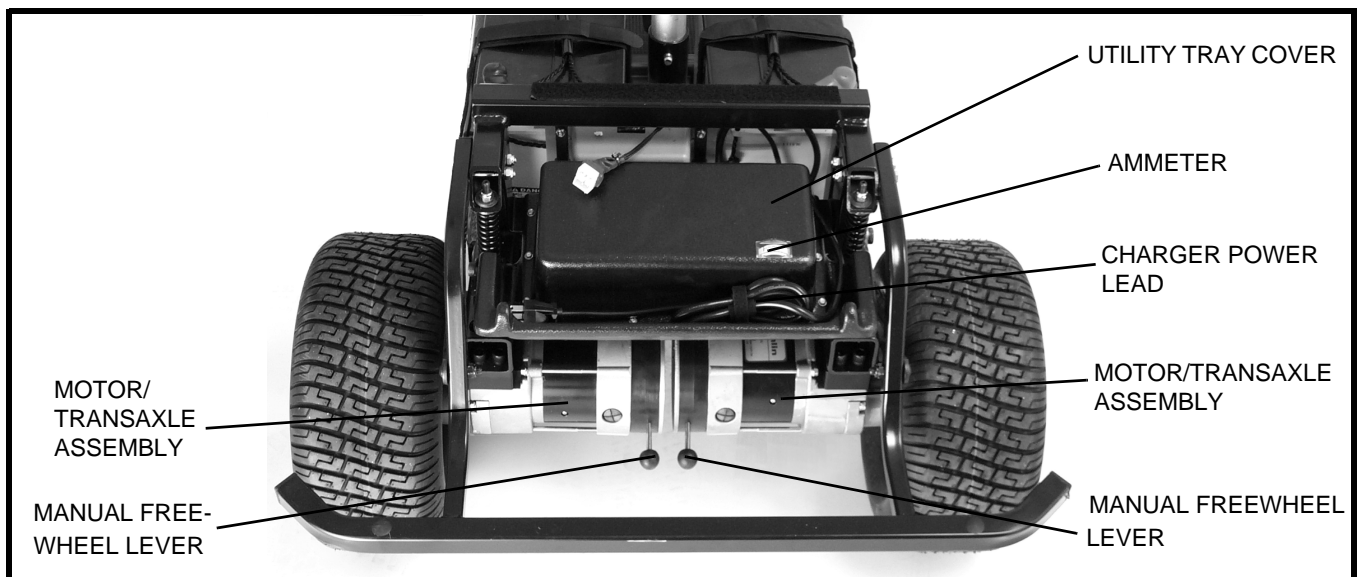

Figure 6A. Rear Section
Whenever you want to push your scooter for short distances, you can put it in manual freewheel mode. The manual freewheel levers are located on the end of the motors at the rear of the scooter. See **figure 6A**.
4. Extend the charger power lead (see **figure 6A**) and plug it into the electrical outlet. We recommend you charge your scooter's batteries for 8 to 14 hours.